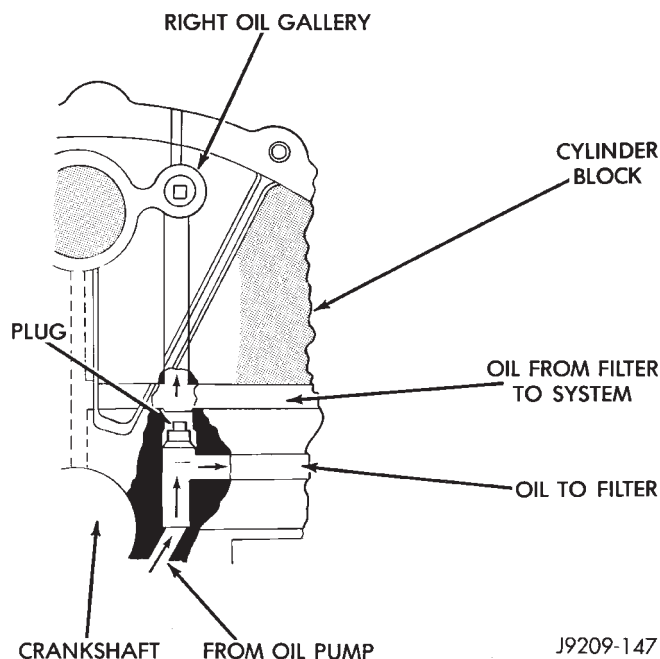

Fig. 68 Oil Line Plug
The oil line plug is located in the vertical passage at the rear of the block between the oil-to-filter and oil-from-filter passages (Fig. 68). Improper installation or plug missing could cause erratic, low, or no oil pressure.
(1) Remove oil pressure sending unit from back of block.
(2) Insert a 3.175 mm (1/8 in.) finish wire, or equivalent, into passage.
(3) Plug should be 190.0 to 195.2 mm (7-1/2 to 7-11/16 in.) from machined surface of block (Fig. 68). If plug is too high, use a suitable flat dowel to position properly.